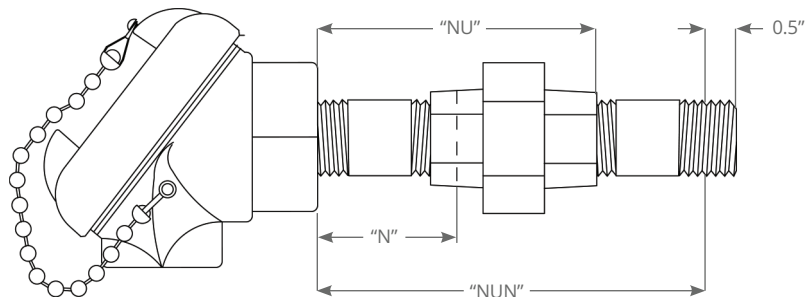

Figure 1
Depending on your installation, you may have to assemble a Nipple (N), Nipple-Union (NU) or Nipple-Union-Nipple (NUN) to your terminal head (See Figure 1).